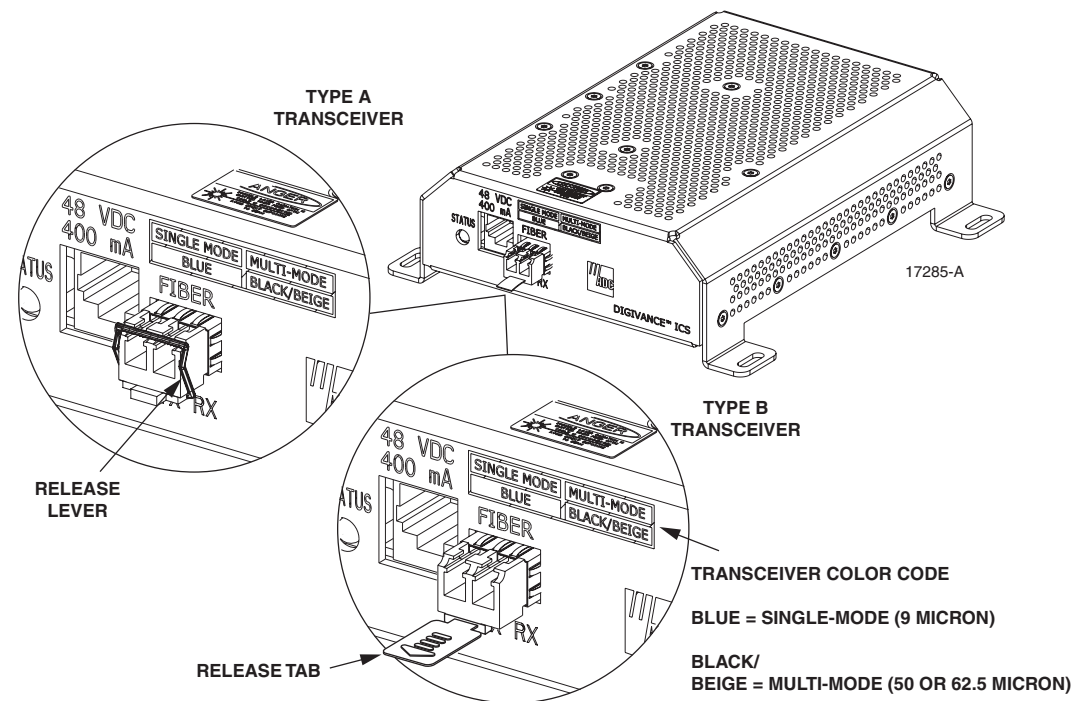

Figure 34. DRU Optical Transceiver Removal
5. Release the optical transceiver from the transceiver socket by pulling outward on the release lever (if type A) or release tab (if type B) as shown in Figure 34.
7. For replacement, select an optical transceiver that corresponds to the type of fiber (single- or multi-mode) used in the installation. The color of the transceiver corresponds to the fiber type (see Figure 34).